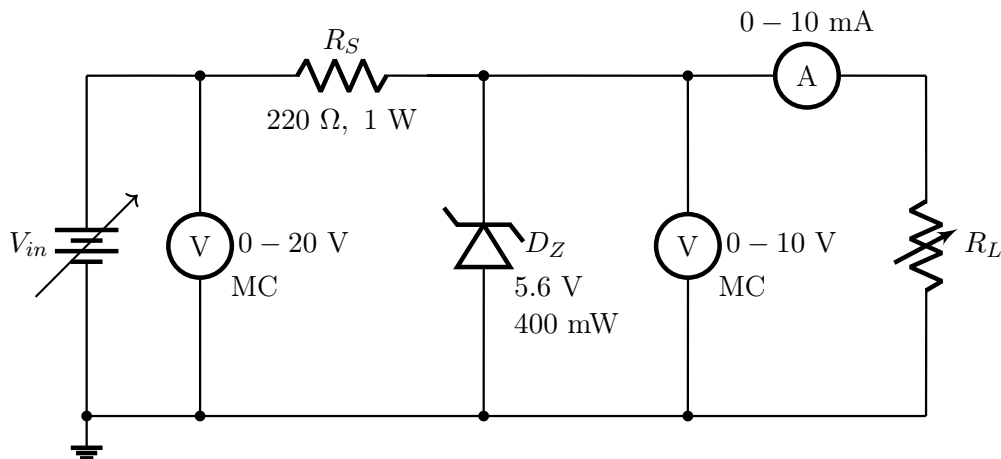

Figure 2.1: Zener diode voltage regulator circuit
The circuit diagram to be set up is given in Fig. 2.1.
1. Connect the circuit as shown in Figure 2.1 with R_L set to give $I_L = I_{L(max)} = 5 \text{ mA}$ (i.e., $R_L = V_Z / I_{L(max)} \approx 1.12 \text{ k}\Omega$). A rheostat of $2.2 \text{ k}\Omega$ may be used as the load resistance R_L .